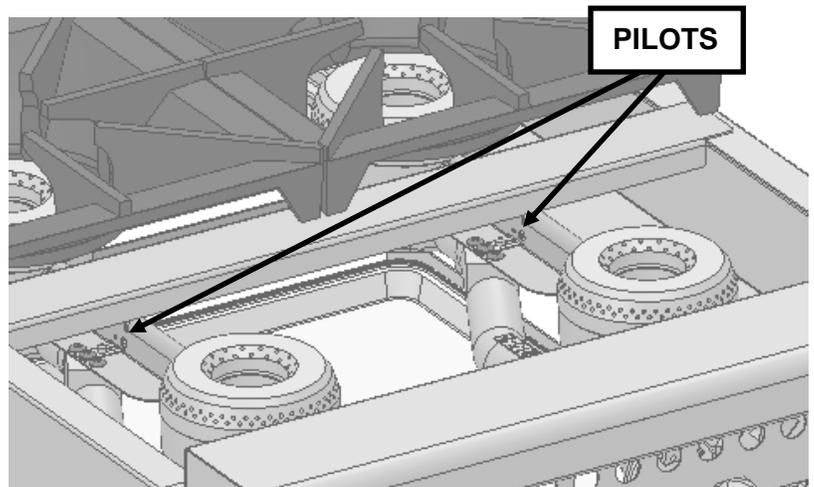

Fig. 5
1. See Fig 5. Turn main gas shut-off valve and all burner control knobs to the OFF position and wait 5 minutes to allow any accumulated gas to escape.